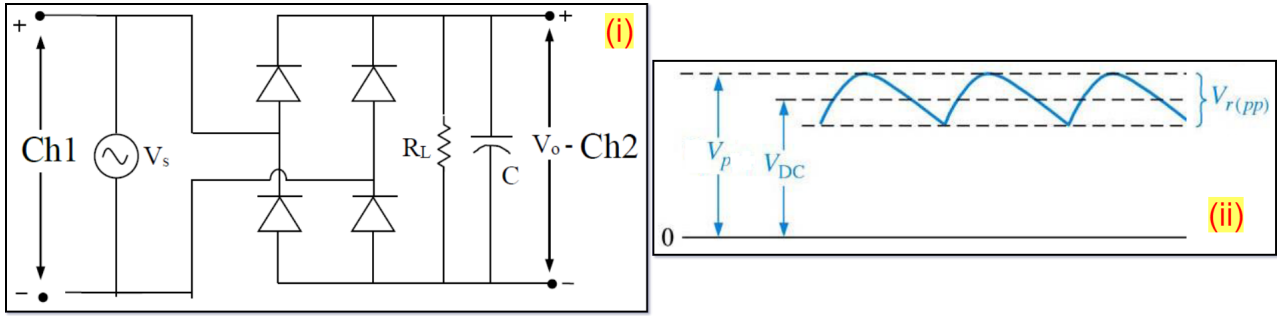

Figure 6: (i) Full-Wave Rectifier Circuit with Capacitor (ii) Output Waveform
1. Construct circuit of Figure 6 without the capacitor. Observe V_s and V_o separately on the oscilloscope [i.e use only one channel].